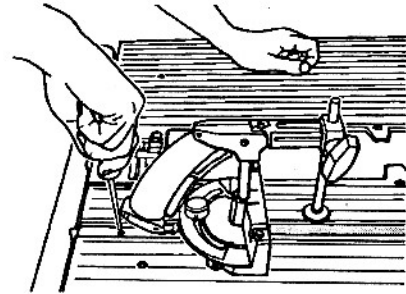

Fig. B-12
11. Place the miter gauge in the right miter slot. Use a medium Phillips screwdriver to tighten or loosen the first screw in the slot extrusion, as shown in Fig. B-12. **Loosen** the screw to allow freer movement of the miter gauge. **Tighten** the screw to "snug" the extrusion on the miter gauge bar.